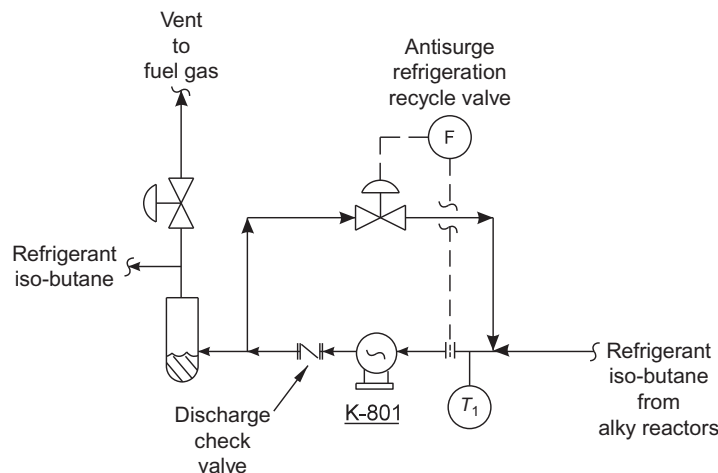

FIG. 32.1 Opening antisurge valve too far overheats compressor suction and causes compressor to surge.
A deep, loud, groaning sound, lasting several seconds, followed by a powerful bang, coming from the direction of our giant 5000 horsepower isobutane recycle refrigeration compressor (see Fig. 32.1), resonated through the control room door.
If the vapor flow rate is reduced, the minimum flow antisurge recycle valve (see Fig. 32.1) will open to maintain the suction flow above the surge point flow. But the recycle
If the differential pressure developed by the compressor (DP) is less than the pressure difference between the discharge and suction (Fig. 32.1), then the gas flow will stop and begin to flow backwards through the rotor's wheels. That's what makes that "surging" sound.
The loud, banging sound, sometimes heard in conjunction with surge, is very distressful but not bad. At my Alky Unit in Texas City, this banging sound was the compressor discharge check valve slamming shut (Fig. 32.1) as a consequence of the reversed gas flow. This dampened the flow of the reversing vapors and also the force of the surge pushing back against the rotor. I suppose then, that such a check valve should be included in the design of all centrifugal compressors.
Old Zip first opened up the vent to fuel gas from the compressor discharge refrigerant receiver, which lowered the compressor discharge (Fig. 32.1). Next, he opened the by-passes on the feed coolers (for both C_4 olefins and isobutane makeup) to increase the refrigerant isobutane vapor flow to the compressor suction.